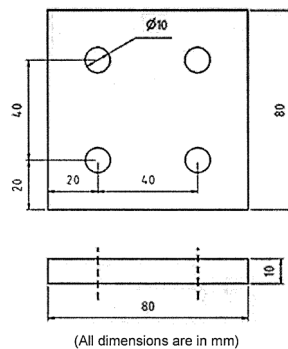

Fig. 2b
b) Write a complete part program for 10mm drilling operation at four location on milling machine on a work piece shown in Figure 2b. Assume suitable speed and feed for machining. [9]